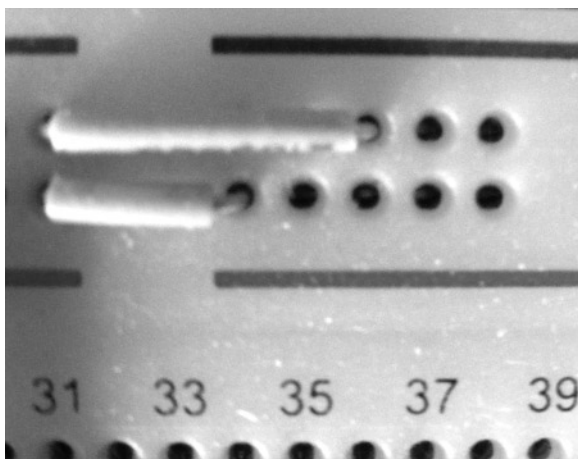

Figure 2-30. Breadboard power bus continuation jumpers
- *With power on:* Double-check that your power supply is delivering 5 volts to your breadboard—and that both the +5V and ground from your power supply are being continued all the way along the power rails of the breadboard. Remember that many breadboards have one or more breaks in their power supply rails up and down the breadboard: these breaks will need jumpers installing to continue the power bus—as Figure 2-30 (see also Figure 2-8).